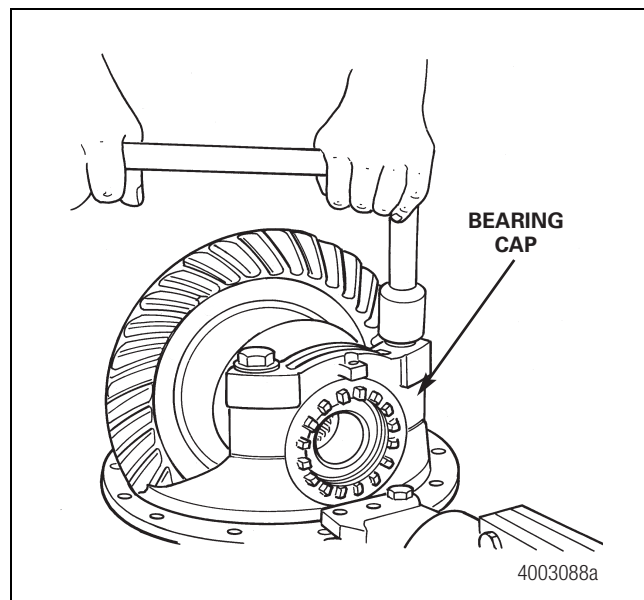

Figure 4.7
2. Use a 24 mm socket and wrench to loosen the differential bearing cap bolts. If necessary, apply heat to the carrier housing to loosen the Loctite® adhesive bond. Figure 4.7.